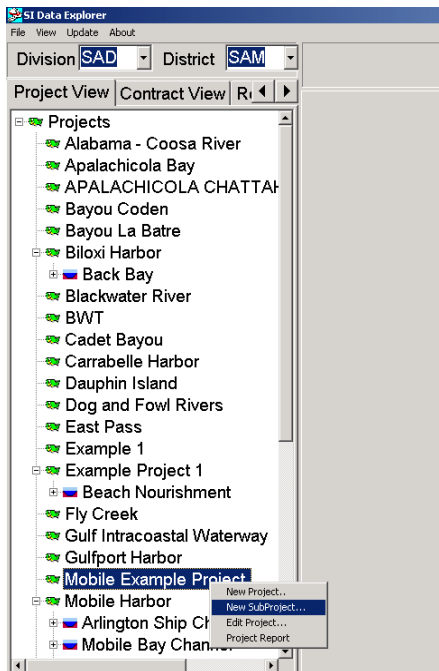

Figure 1.6. Right-Click on the new project and select New **SubProject**.
1. Right click on the project as shown in Figure 1.6.
1. Right-click on the project and select **New SubProject** as seen in Figure 1.6.